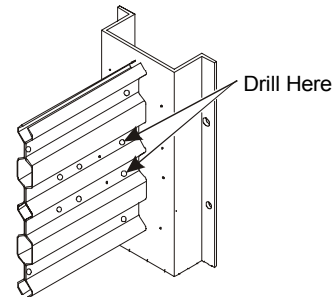

Figure 15: Double-Piece Blades
- Double-piece Blades--Drill out the second set of nugsgets from the end channel, as shown in Figure 15.